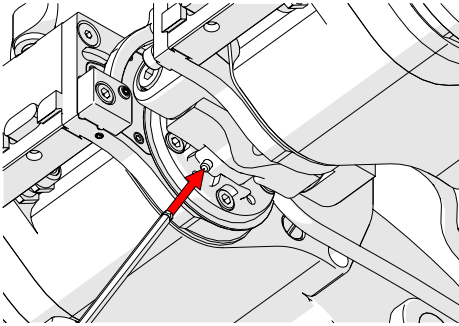
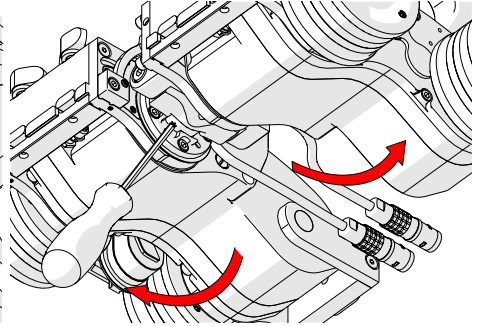

Fig. 97 - Press release pin
Fig. 98 - Press pin and rotate modules
1. Locate the release pin at the bottom of the **NAVIC** (Fig. 97). Using the supplied 3 mm hex driver, press the pin while rotating the two modules (Fig. 98).